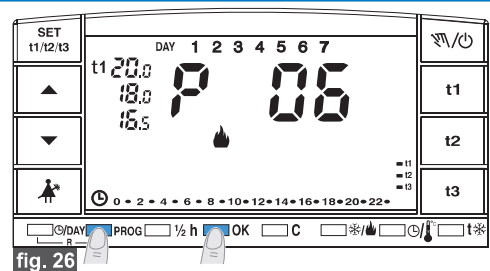

fig. 26
- Repeatedly press **PROG** until **P 06** appears on the display, then press **OK** to confirm (fig.26).